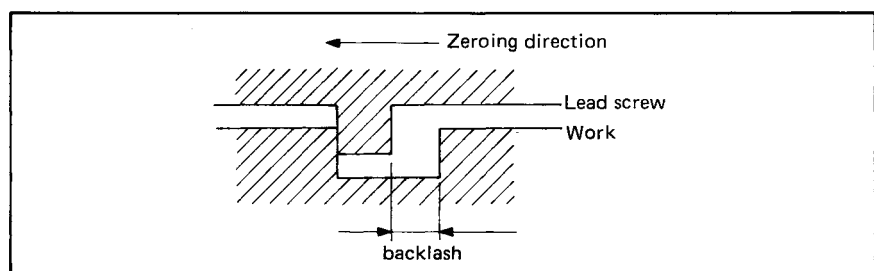

Fig. 3.4 Backlash Compensation
(6) Backlash compensation
- Allows a backlash compensation (see Fig. 3.4) to be programmed in for accurate positioning.